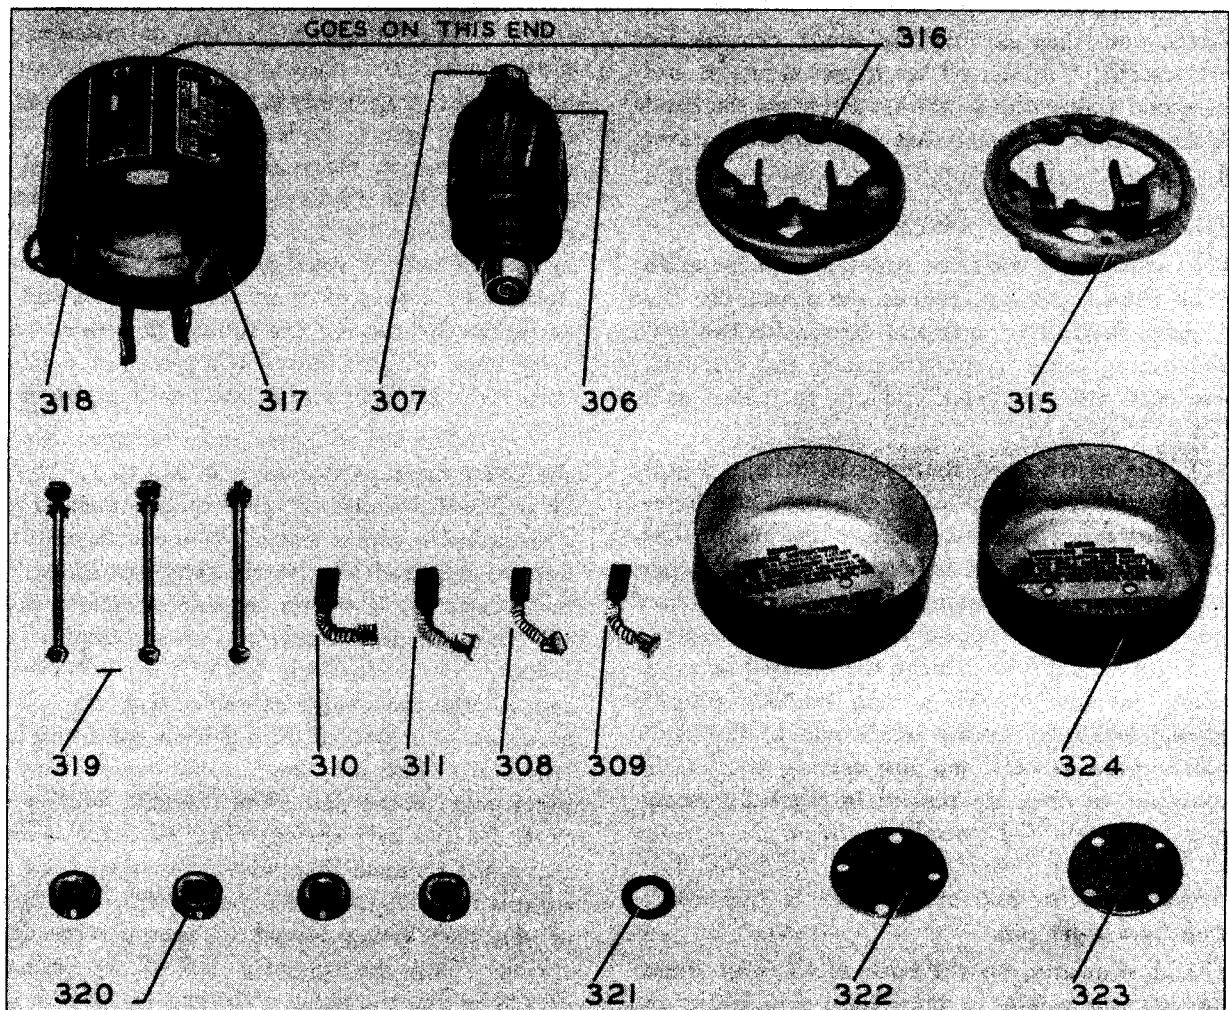

Figure 5-4. Dynamotor DM-28-(\*) or DM-24-(\*)—Disassembled
(5) Lubricate the dynamotor at 1,000 hours or approximately six months of ordinary service. For ordinary and LOW temperature conditions use a mineral oil grease AN-G-15. For unusually high temperatures which are present in tropical climates use AN-G-5 grease. The directions for lubrication are stamped on the inside of the end-bell dust covers. Access to the bearings of the dynamotor is obtained by removing the dust covers after first cutting the safety wires and removing the retaining screws, then unscrewing the bearing end plates. Do not PACK the lubricant in these bearings.
(6) When necessary to replace the ball bearings or turn down the commutators, first remove the brushes from their cartridges. (See fig. 5-4.) Remove the nuts from the tie rods which hold the bearing end-bells, and pull the end-bells away from the